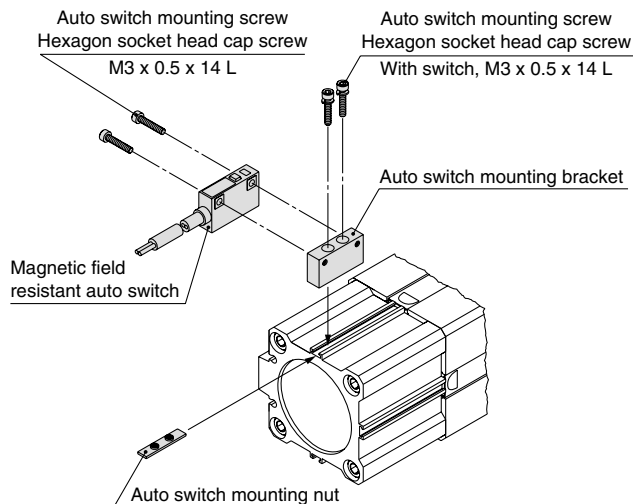
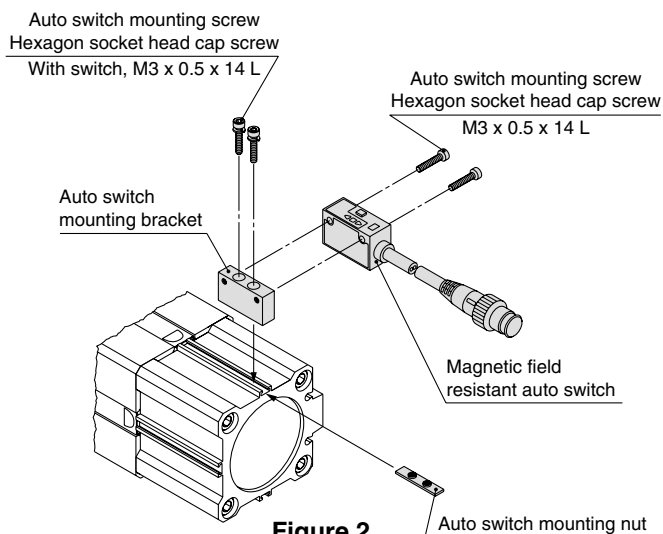

Figure 1
Figure 2
4. After reconfirming the detecting position, tighten the auto switch mounting screw to secure the auto switch mounting bracket and the auto switch. (Tightening torque should be 0.5 to 0.7 N·m.) (See Fig. 1 and Fig. 2.)
- * Be aware that the D-P79WSE should be installed in the specified direction shown when installed to the auto switch mounting bracket. Be sure to mount it so that the soft resin mold surface is in contact with the auto switch mounting bracket. (See Fig. 2.)